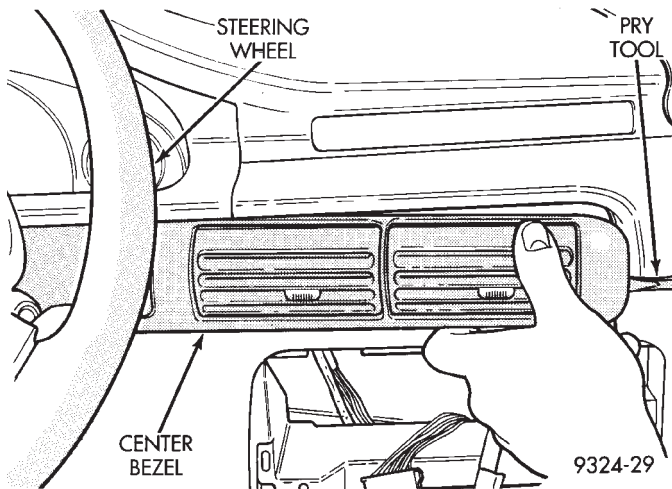

Fig. 2 Center Bezel Removal
- (11) Remove the radio center bezel which is held in place by six clips. This can be done by carefully prying the bezel from the instrument panel.
- (12) Remove the radio and heater A/C control head from the panel and place in a safe area to prevent scratches to component faces.
(13) Remove the center instrument panel bezel (Fig. 2). This bezel is held in place by four clips. It can be removed by carefully prying it from the instrument panel.